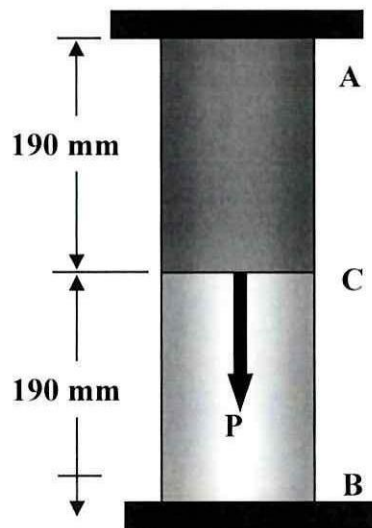

Figure Q2
- Q2** Rod AB consists of two cylindrical portions AC and BC, each with a cross-sectional area of 1750 mm^2 . Portion AC is made of a mild steel with $E = 200 \text{ GPa}$ and $\sigma_y = 250 \text{ MPa}$, and portion BC is made of a high-strength steel with $E = 200 \text{ GPa}$ and $\sigma_y = 345 \text{ MPa}$. A load P is applied at C as shown in **Figure Q2**. If P is gradually increased from zero until the deflection of point C reaches a maximum value $\delta_m = 0.3 \text{ mm}$ and then decreased back to zero. Determine: